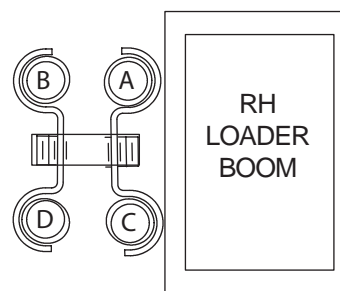

Figure 19 #46675 Control Valve & Loader Feedline Connections
1. Install elbow (4) and elbow (5) into "N" port of adapter plate as shown in Figure 19.
2. Install PBH hose (6) into elbow (5).
3. Install elbow (4) into "P" port of adapter plate as shown.
4. Install IN hose (7) into elbow (4).